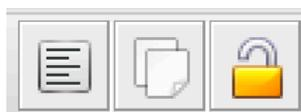

Fig. 22 – Button to align on a split, disaligne with sx/dx and unlock button
- Disaligne with sx/dx :** it is also possible to rapidly move the curves with this function that can be activated either from the icon bar (pages icon, shown in the center of Figure 22) or from the graph menu. This function allows you to shift the selected curves (highlighted in green) by